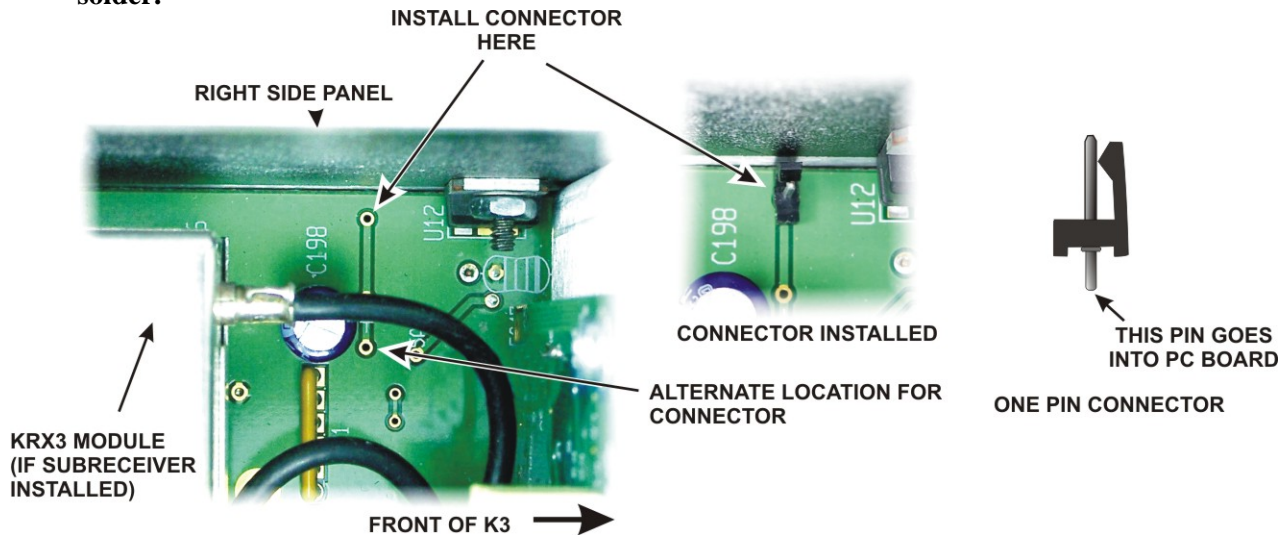

Figure 4. Installing the One-Pin Power Connector on the K3 RF Board.
2. Temperature-controlled soldering iron with a fine tip and small diameter rosin core solder may be needed if the power connector is not already installed in your K3 (see Figure 4 on page 11).
Check to see if the one-pin power connector is already installed on the K3's RF board (see Figure 4). If so, skip the following steps and go directly to *Installing the ANT3 Connector* on page 11.
Solder the male half of the one –pin connector to the via (copper plated hole through the board) near the front right area of the K3 main RF board just behind the front panel shield as shown in Figure 4. That via may be occupied on some K3’s. If so, use the alternate location shown. Mounting the connector may be done by standing the K3 on its left side and inserting the connector in the hole in the pc board. Carefully solder the pin to the copper via on the bottom. If necessary, you can straighten the connector after soldering by pressing down on the shoulder with your finger while reheating the solder on the bottom.